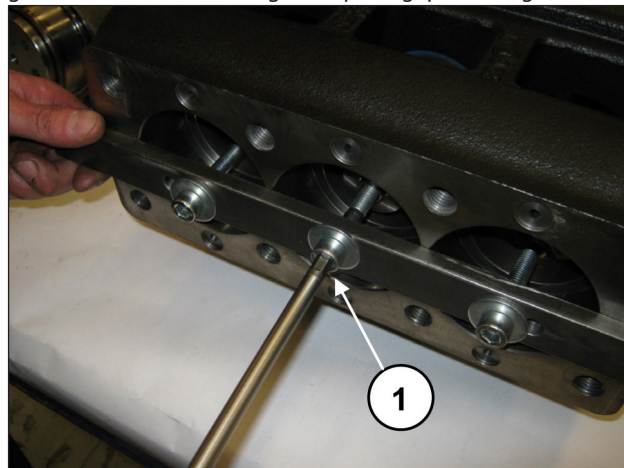
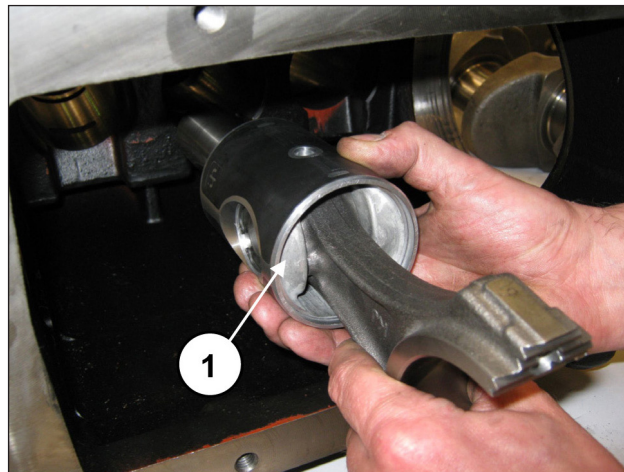
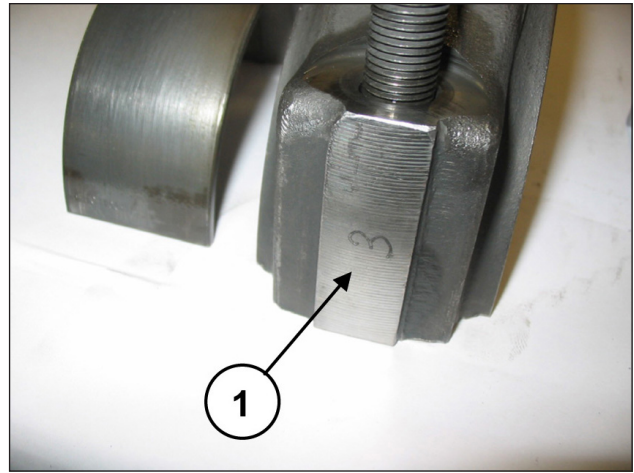

Fig. 32
Fig. 33
Fig. 42
In the event that it is necessary to replace one or more conrods or piston guides, operate as follows: Unscrew the screws with tool code 27566200 to unlock the conrods (pos. ①, Fig. 32) and then extract the conrod-piston guide units from the casing rear opening (pos. ①, Fig. 33).
Couple the half-conrods to the previously disassembled caps, referring to the numbering (pos. ①, Fig. 42).
Separate the caps from the half-conrods. Proper coupling can be verified by the numbering on the side (pos. ①, Fig. 42). After having checked casing cleaning, proceed with assembly of the half conrod-piston guide unit inside casing rods (pos. ①, Fig. 33).
Block the three units with the use of special tool code 27566200 (pos. ①, Fig. 32).
Remove the tool for blocking the conrods code 27566200 (pos. ①, Fig. 32).